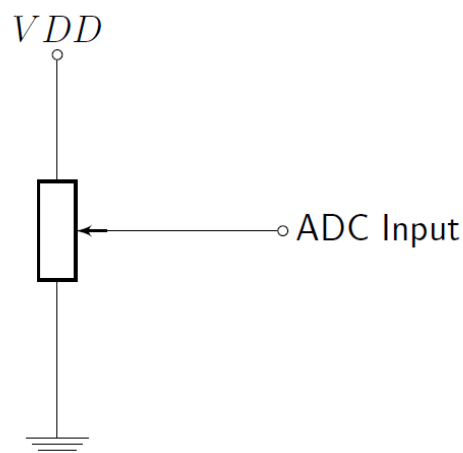

Figure 1: ADC Potentiometer Connection
- Identify the ADC and DAC pins using either the code or the datasheets available from Table 2. Connect a potentiometer to the ADC pin as shown in Figure 1 OR use a signal generator to input a waveform. Use the oscilloscope to verify that the ADC and DAC pins are doing the same thing.